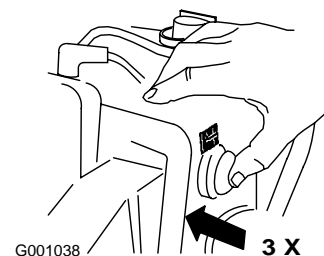

Figure 29
6. Firmly push in the primer 3 times with your thumb, holding the primer in for a second before releasing it each time (Figure 29).